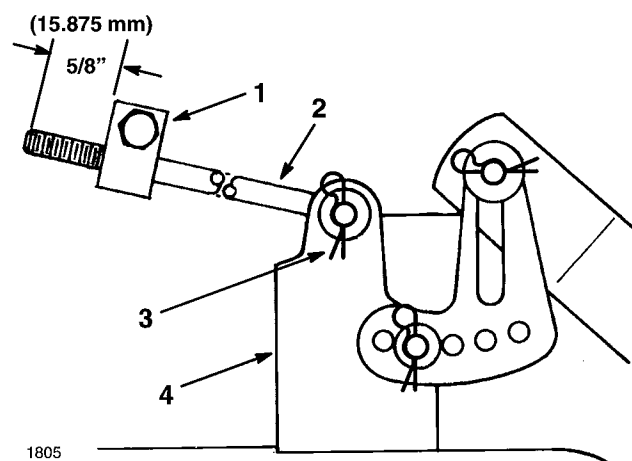

Figure 50
3. Measure the length of the rod extending out the front of the adjusting block on the sides of the chassis (Fig. 50). If the rod length is not 5/8" (15.875 mm), remove the hair pin cotter and washer from the end of the rod (Fig. 50), and turn the rod until the 5/8" (15.875 mm) dimension is obtained. Then install the end of the rod into the hole in the mower mount and secure in place with washer and hair pin cotter. Repeat procedure on the opposite side.